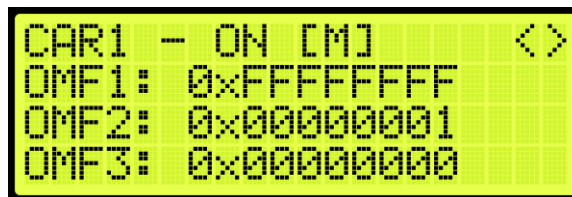

Figure 265: Front Opening Map Status
4. From the Front Opening Map Status (See Figure 265), press the right button.